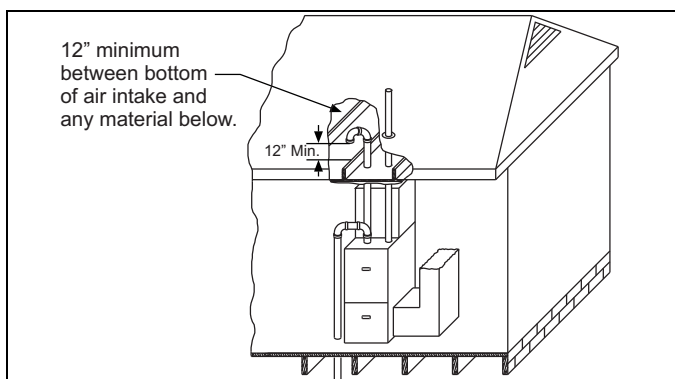

Figure 29: Attic and crawl space combustion air termination
- **Ventilated combustion air:** Combustion air is supplied through a PVC, CPVC, or ABS pipe that is connected to the coupling attached to the burner box and is terminated in a ventilated attic or crawl space. The combustion air and the vent pipes are not terminated in the same atmospheric zone. See Figure 29 for attic and crawl space termination. Only the combustion air intake can terminate in the attic. The vent must terminate outside.
See Figure 29 for required attic termination for the combustion air intake pipe. For attic termination, use two 90° elbows with the open end in a downward position. Make sure to maintain 12 in. (30.5 cm) clearance above any insulation, flooring, or other material.